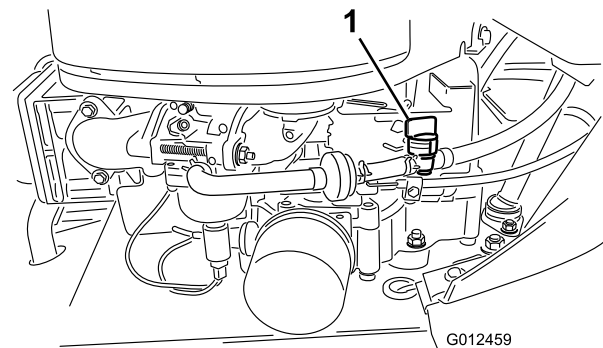

Figure 31
6. Close the fuel shut-off valve (Figure 31).
7. Squeeze the ends of the hose clamps together and slide them away from the old fuel filter (Figure 31).